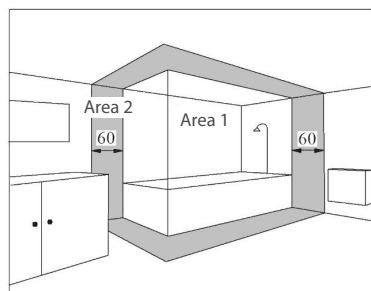

Fig. 4
5.5 Convectors with an IP24 shell can be installed in rooms with high humidity - bathrooms, showers, swimming pools (Fig. 4). At the same time, it is prohibited to install a convector: